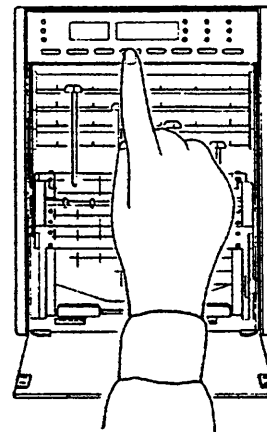

Figure 5.8 Press the Chart Feed Key
- (11) Press the  key, and confirm that the chart is fed smoothly. (See Figure 5.8.)